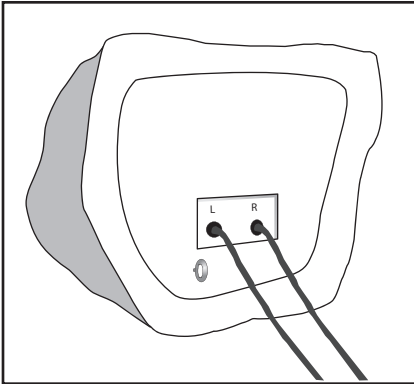

Figure 7a. Lay the speaker on its back.
1. Without moving the speaker out of position, lay the speaker on its back so that the bottom is exposed (figure 7a).